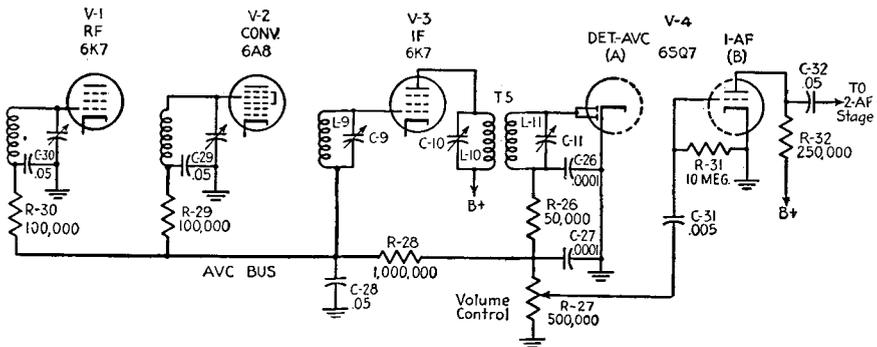

FIG. 12-11. The AVC circuit.
**Troubles common to the AVC filter and decouplers.** Figure 12-11 illustrates the AVC circuit and shows it connected to the RF, converter, and IF stages. Resistor R-28 and condenser C-28 make up the AVC filter described previously.